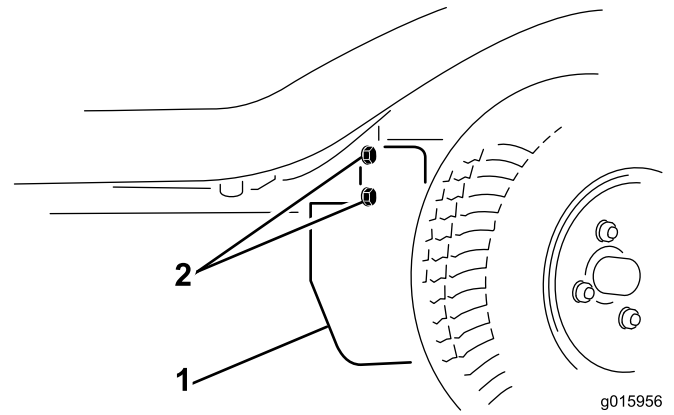

Figure 4
2. Take a rear belt guard and slide the notches at the top of the plate under the hex bolt heads and tighten the bolts securely; see Figure 4.